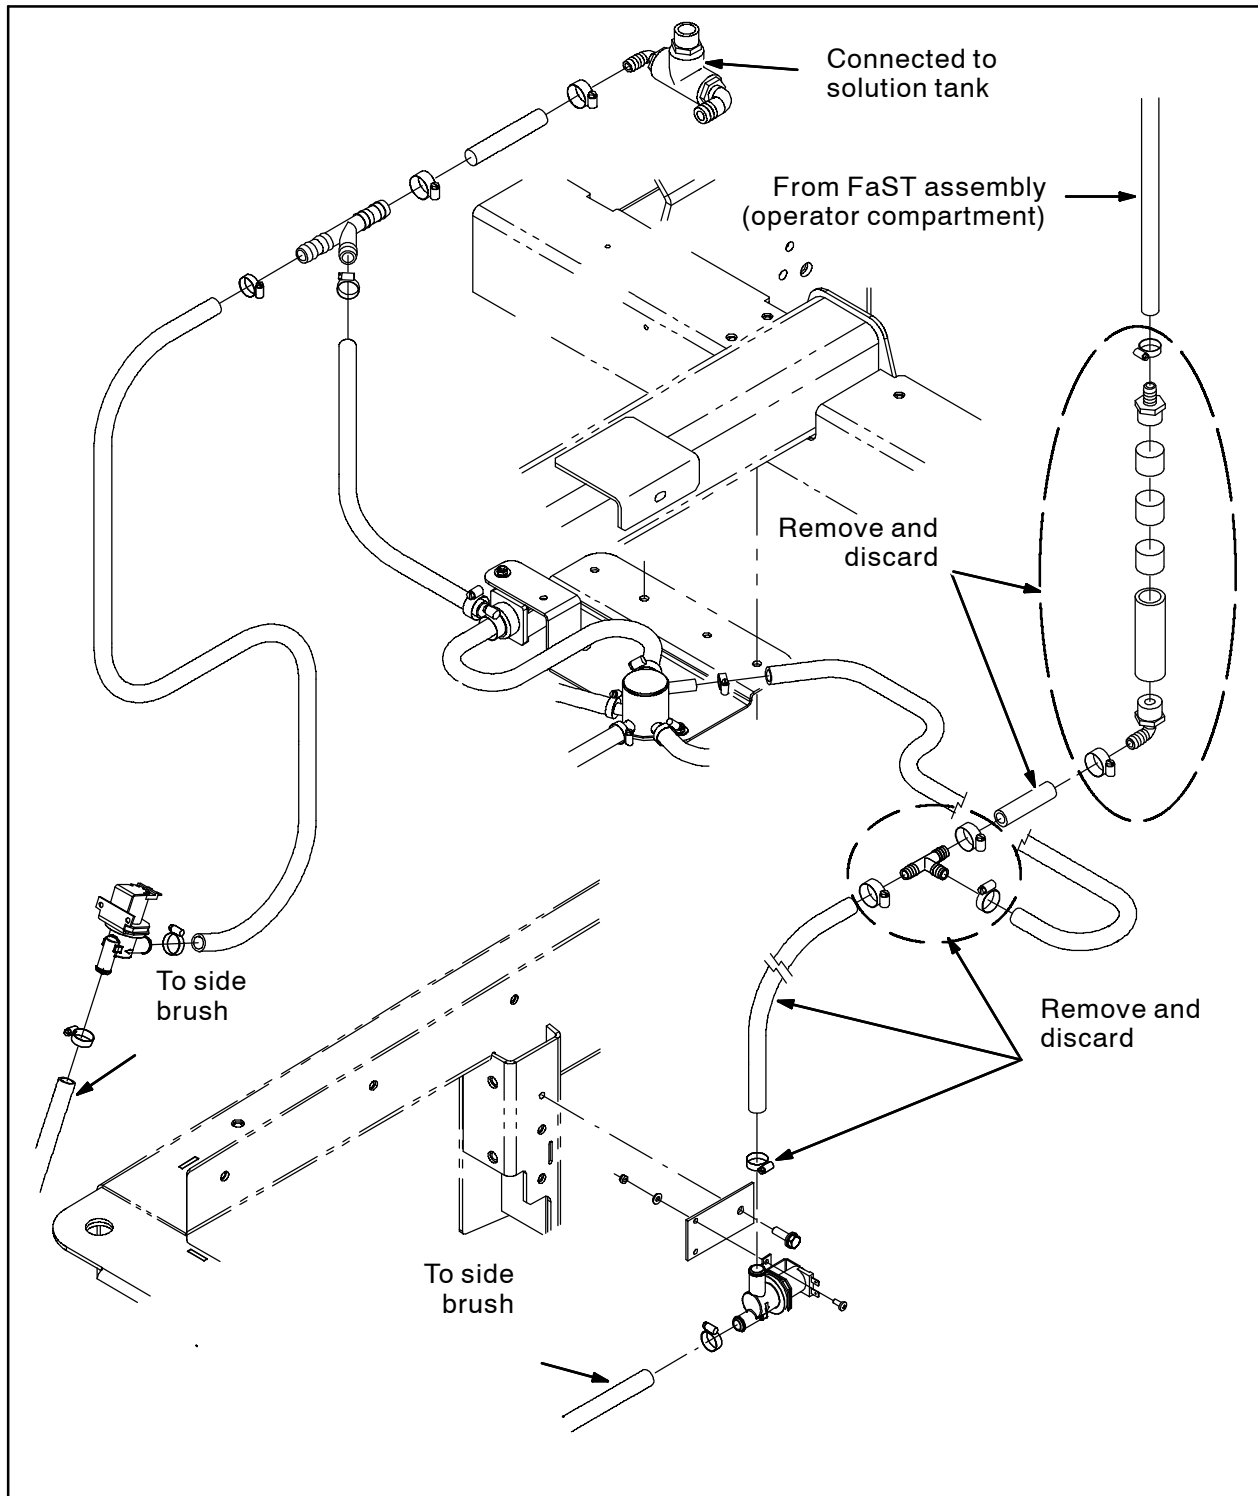

FIG. 1
1. Disconnect the hoses and wire harness from the FaST assembly and remove the entire FaST assembly from the machine. Discard the FaST assembly and removed hardware. Refer to Fig. 1.
2. Remove and discard the hoses and components labeled in Fig. 1.